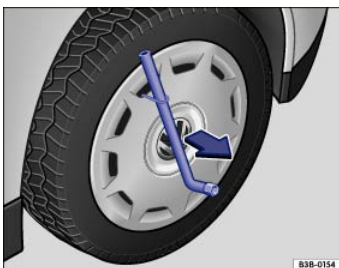

Fig. 193 Pulling the wheel cover off.
- Slide the lug wrench through the clip ⇒ *Fig. 193* and pull the wheel cover off in the direction of the arrow.